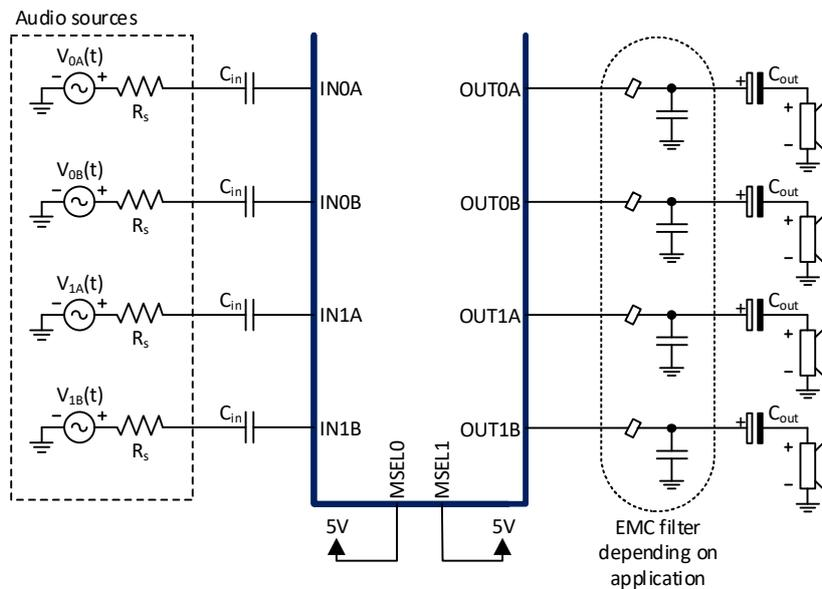

Figure 9-3 Four channel, single ended (SE) configuration
In single ended (SE) configuration, the MA12040 is able to drive one loudspeaker per output power stage, i.e. up to four loudspeakers. The output is biased to half the power supply voltage,  $\frac{1}{2}$  PVDD. One of the solutions to drive a speaker in this configuration is to use AC-coupling capacitors ( $C_{out}$ ) in series with the load, as shown in Figure 9-3. The value of the capacitors depends on the load resistance and the desired audio bandwidth.